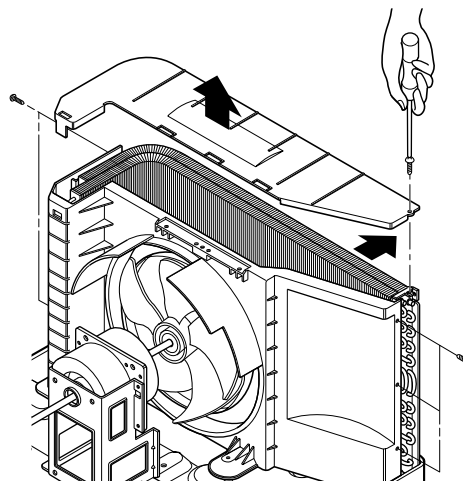

Figure 31
3. Remove 2 screws which fasten the side cover. (See Fig. 31)
7. Re-install the components by referring to notes. (See Fig. 31)